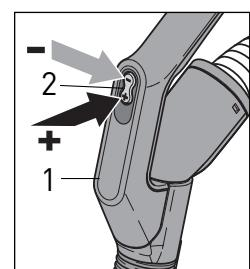

Figure 3
3. Grip the handle of the hose (1) with your thumb over the power control rocker (#2, figure 3).
6. If the canister does not power up as soon as you plug it in, gently press the on/off button on the canister (6) with your hand or foot.
7. Press the (-) on the power control rocker (2) to decrease the suction or the (+) to increase the suction on the canister (figure 3). You can press the rocker several times or hold it down steadily until you reach the suction desired.
8. If you continue to press the (-) you will eventually put the canister in stand-by mode. Stand-by mode means that the canister is plugged in, but not running. Note that when the canister is in stand-by mode, the blue light (8) around the on/off switch on the canister blinks back and forth.
10. **BEFORE PROCEEDING WITH FURTHER ASSEMBLY AND USE**, turn off the vacuum with the on/off button on the canister (6) AND unplug the unit from the wall outlet.